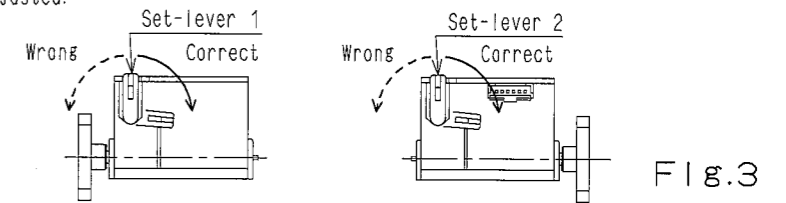

Fig.3
(4) Be sure Set-lever is turned 90° to the arrow of direction (inside). (Refer to Fig.3)